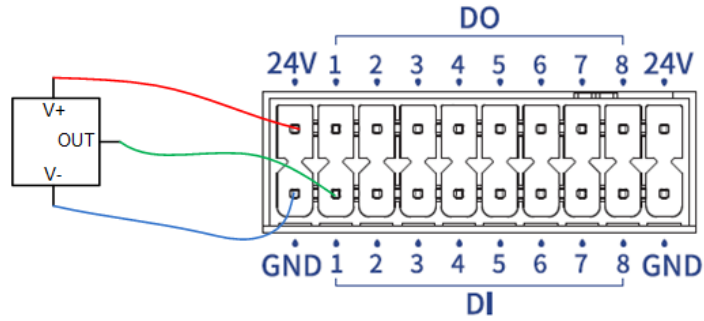

Figure 6.11 DI wiring (3-wire sensor)
2. When you use the 3-wire sensor as the DI input, connect the cables as shown in Figure 6.11. The sensor signal type (PNP/NPN) needs to match the signal type of the controller.